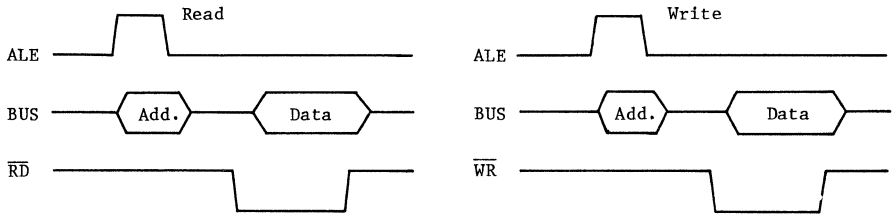

Fig.6 Timing of Accessing External Data Memory
- Figure 6 illustrates the timing of accessing the external data memory during execution of external program.
- (3) Interface with I/O Expander (TMP8243P)